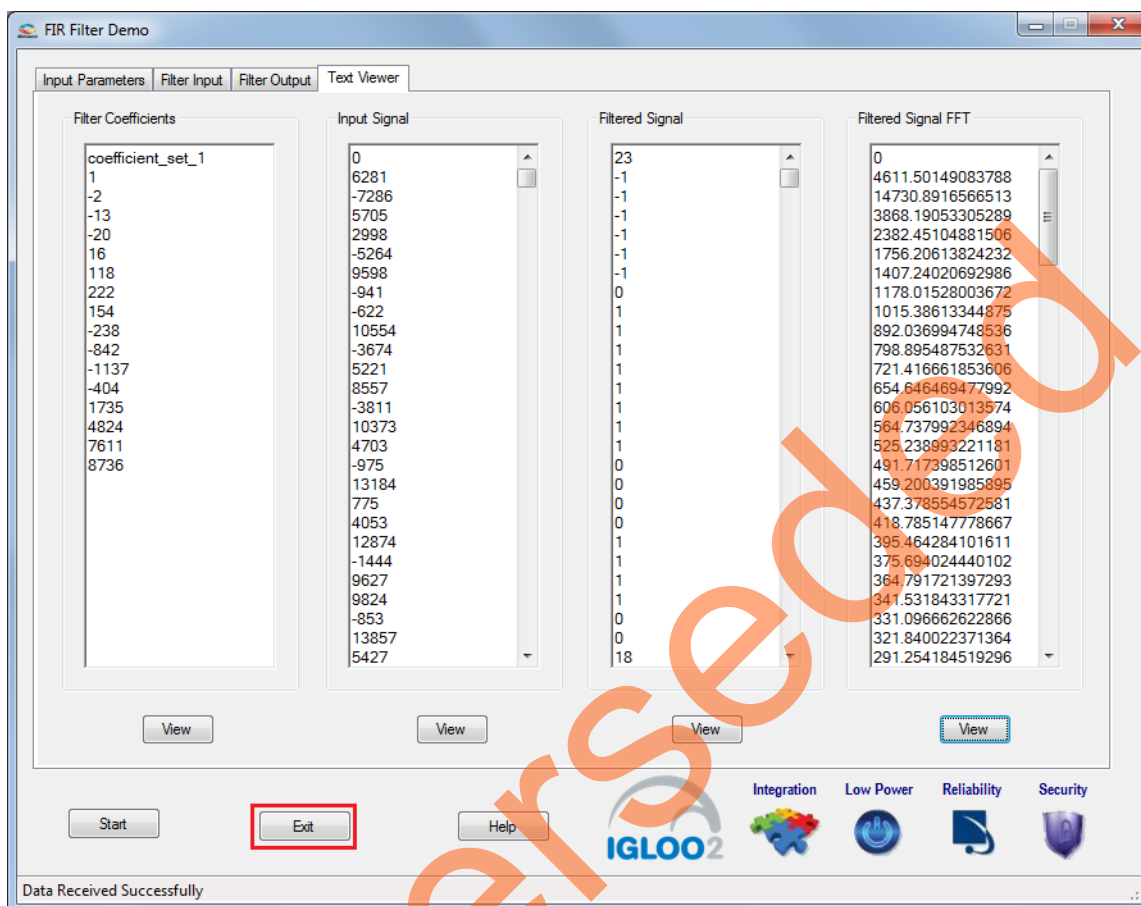

Figure 22 • FIR Filter Demo: Exit
13. Click **Exit** to stop the demo. Refer to Figure 22.